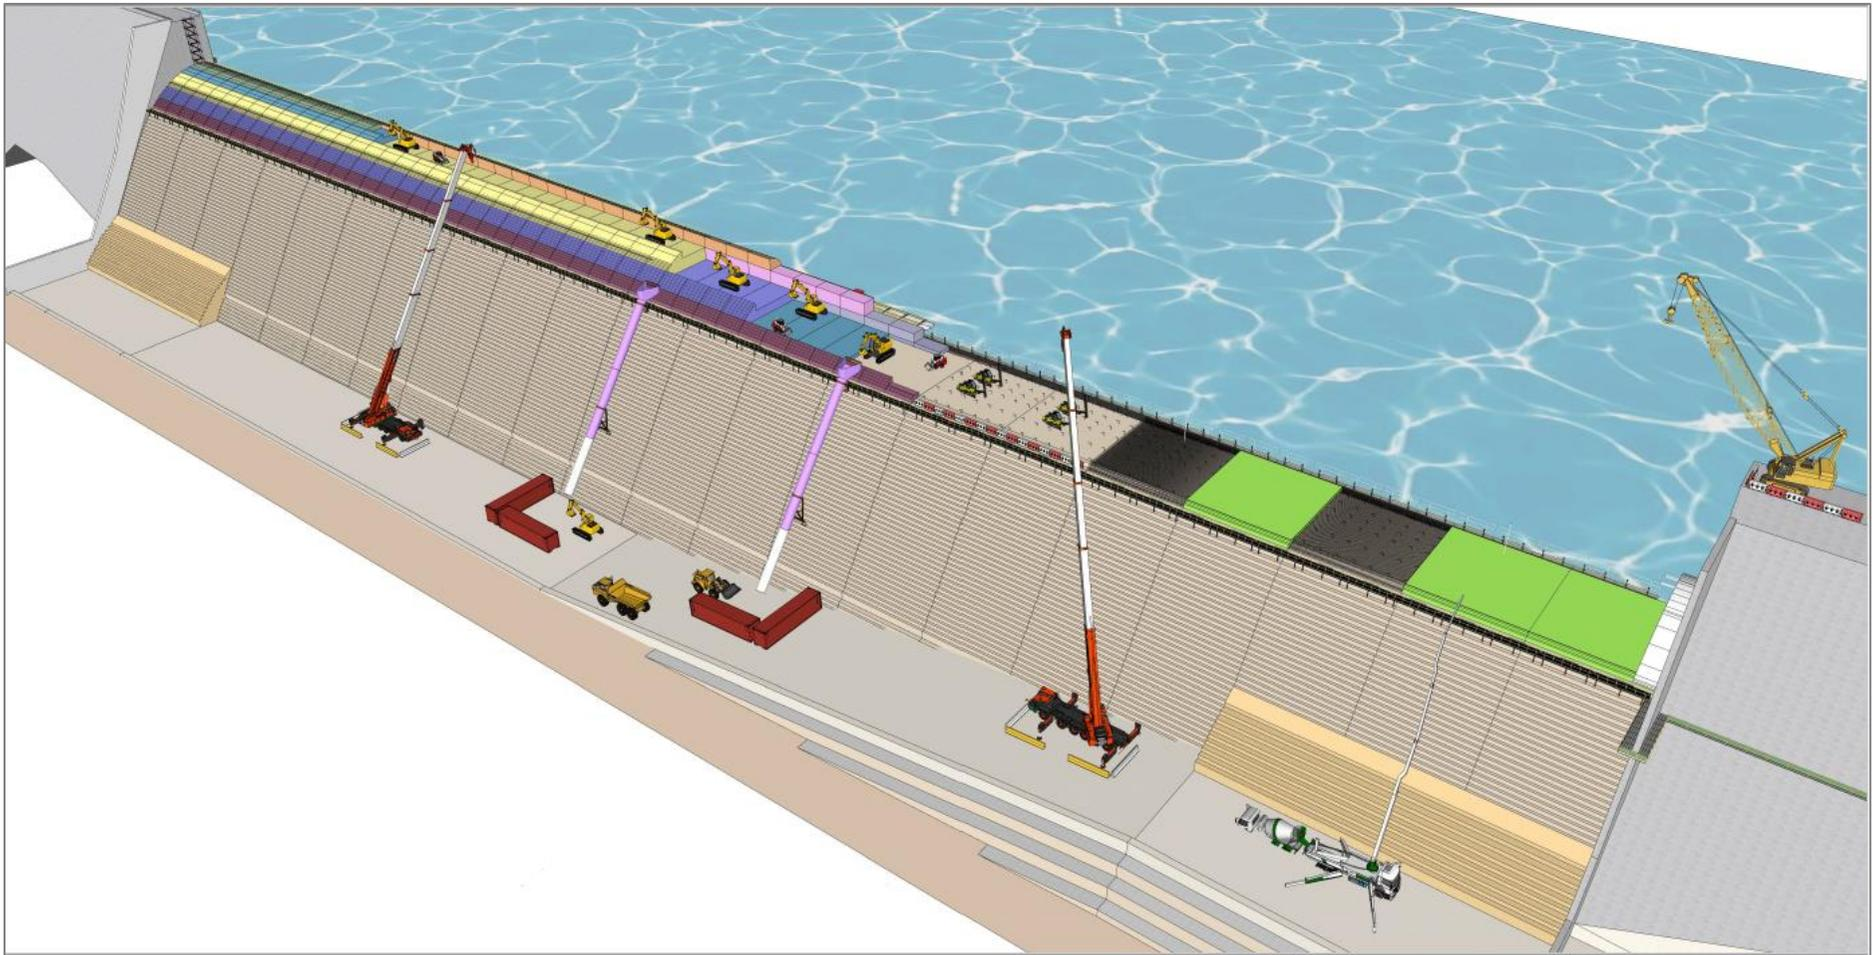
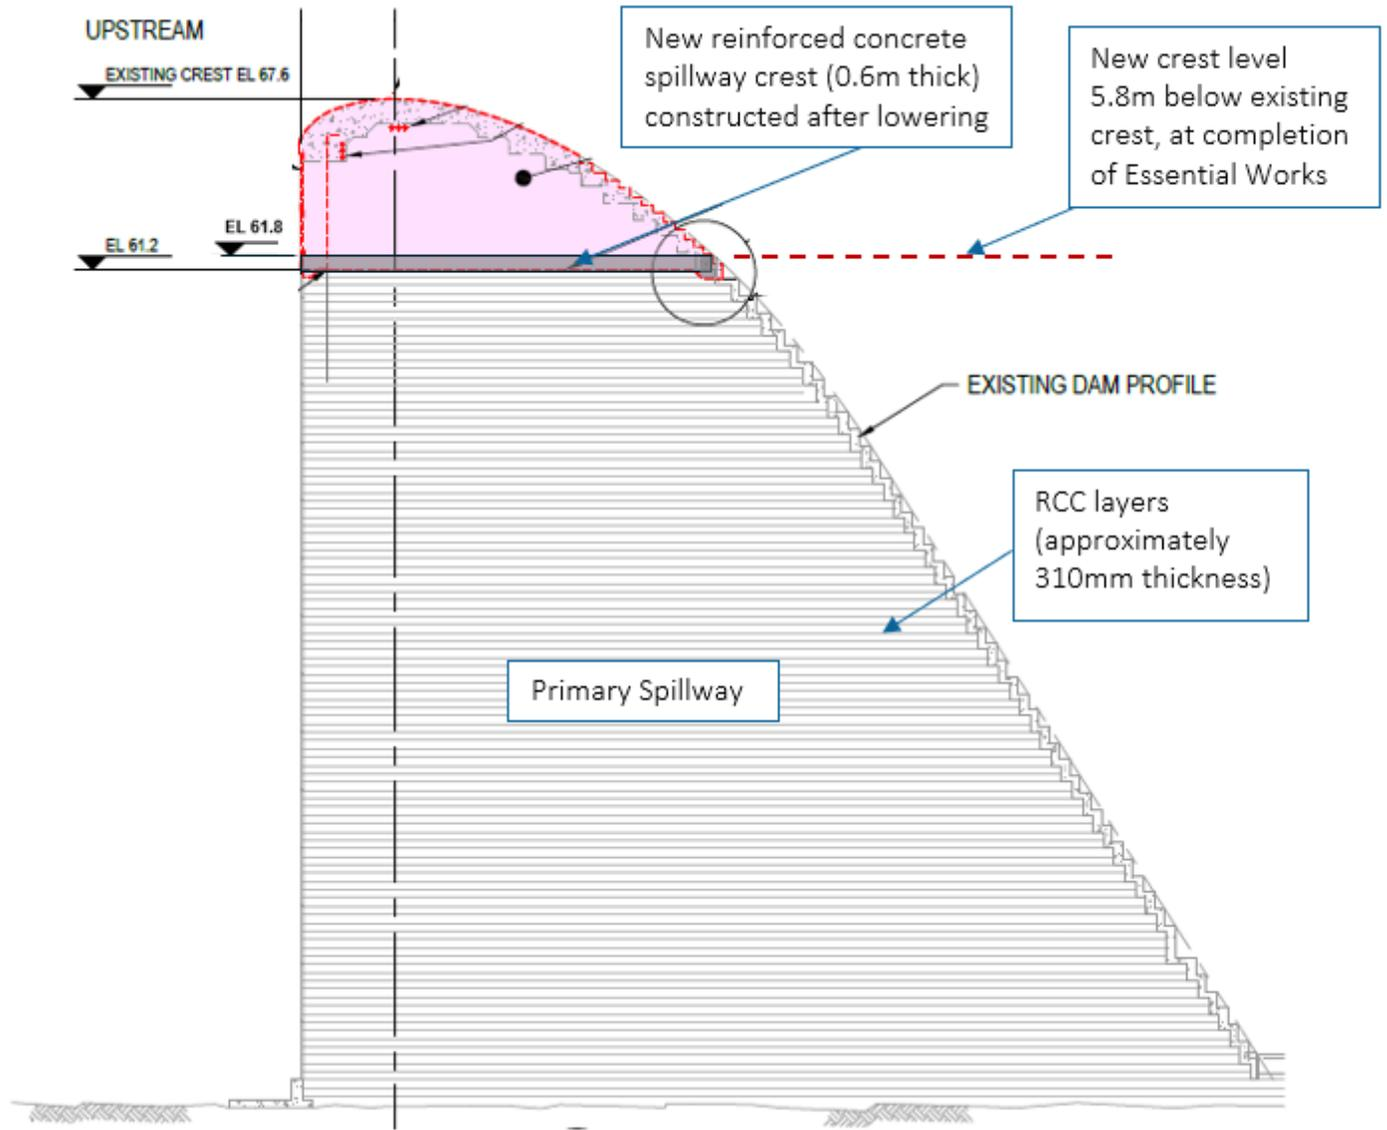

Figure 1 – Essential works schematic
Figure 2 – Section through primary spillway – showing lowered level
- Figure 1 shows a schematic of the Essential Works. Figure 2 is a section through the Primary Spillway showing the lowered level.